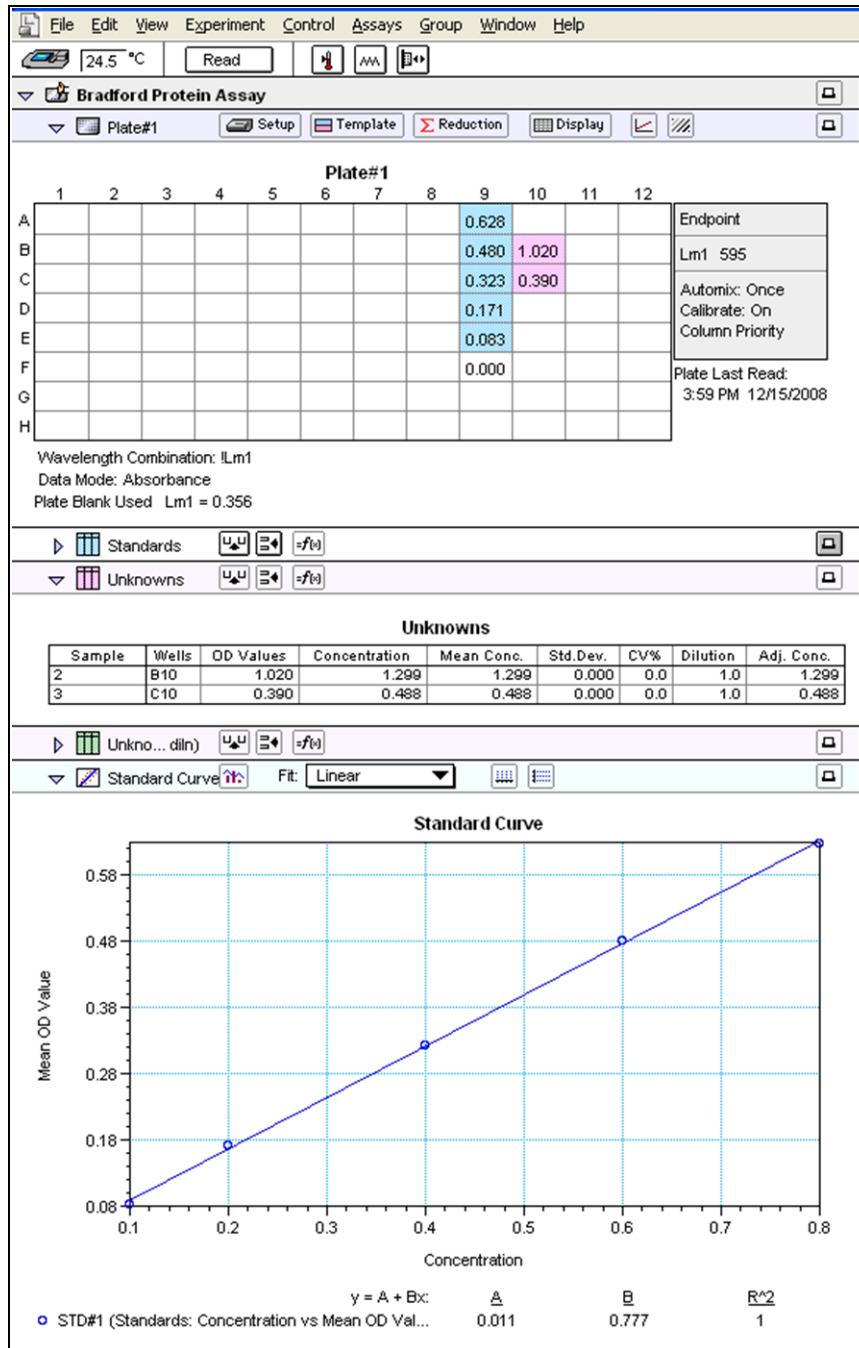

Figure 7. Print out from a Bradford microplate-based protein assay.
- 7) A typical Bradford microtiter assay result from a commercial plate reader is illustrated below in **Figure 7**.